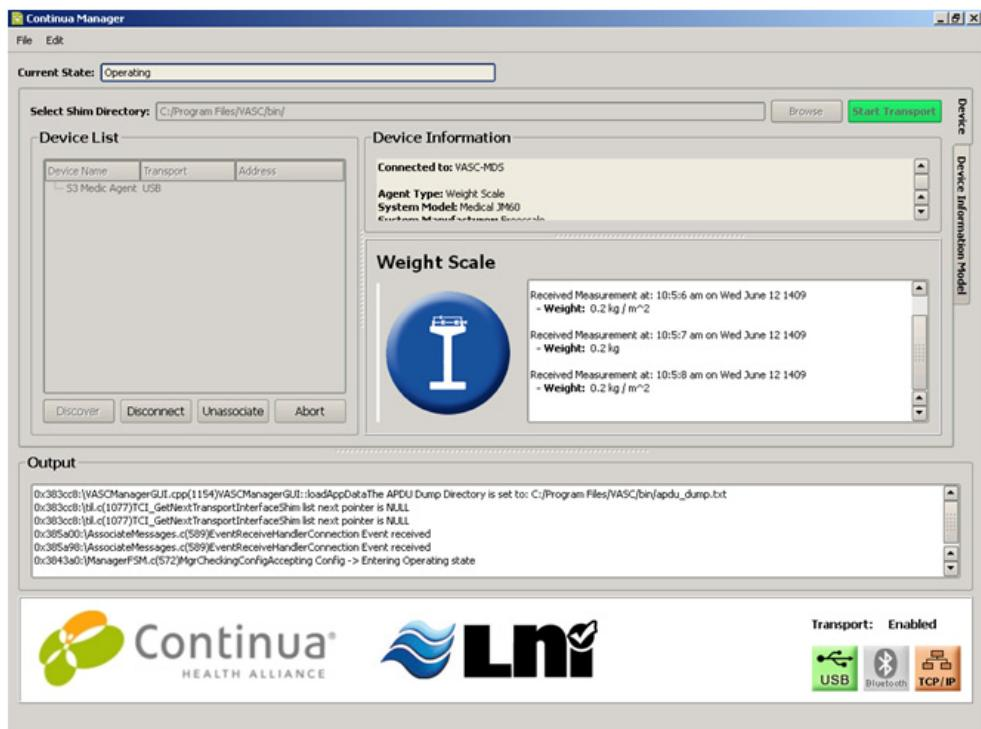

Figure C-9. Weigh scale device detection with Continua Host
- When the push button to send the measurement is pressed, measurements are sent to the Continua Host Manager as shown in Figure C-9.